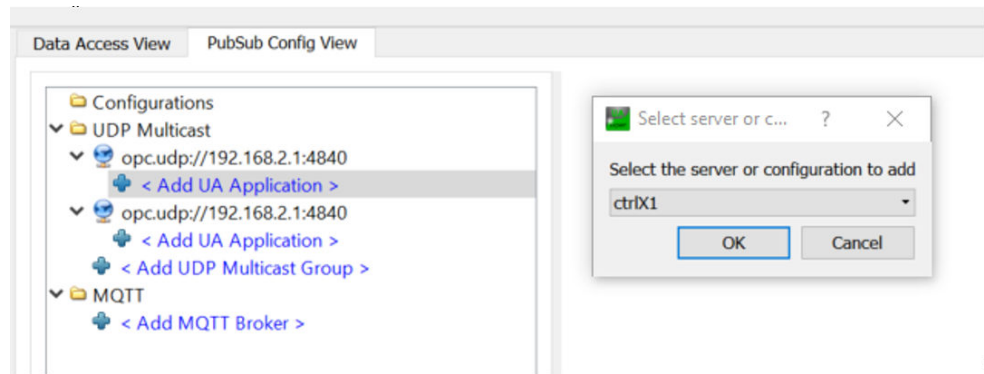

Fig. 12: UaExpert - Adding a UA application
6. Double-click on the entry "<Add UA Application>" in the "PubSub Config View" to add a UA application (see Fig. 12).